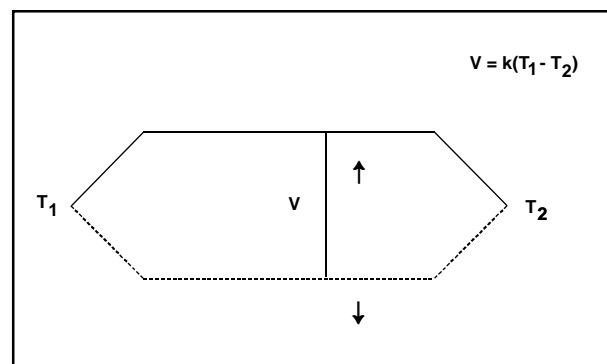

FIGURE 1 Basic T/C Circuit
As shown in Figure 1, a thermocouple circuit has two sides that are called "junctions". The process side of the circuit is called the "hot junction", while the opposite side is called the "cold junction". The voltage (V) across this circuit is proportional to the temperature difference between the hot and cold junctions (T_1 and T_2 , respectively).